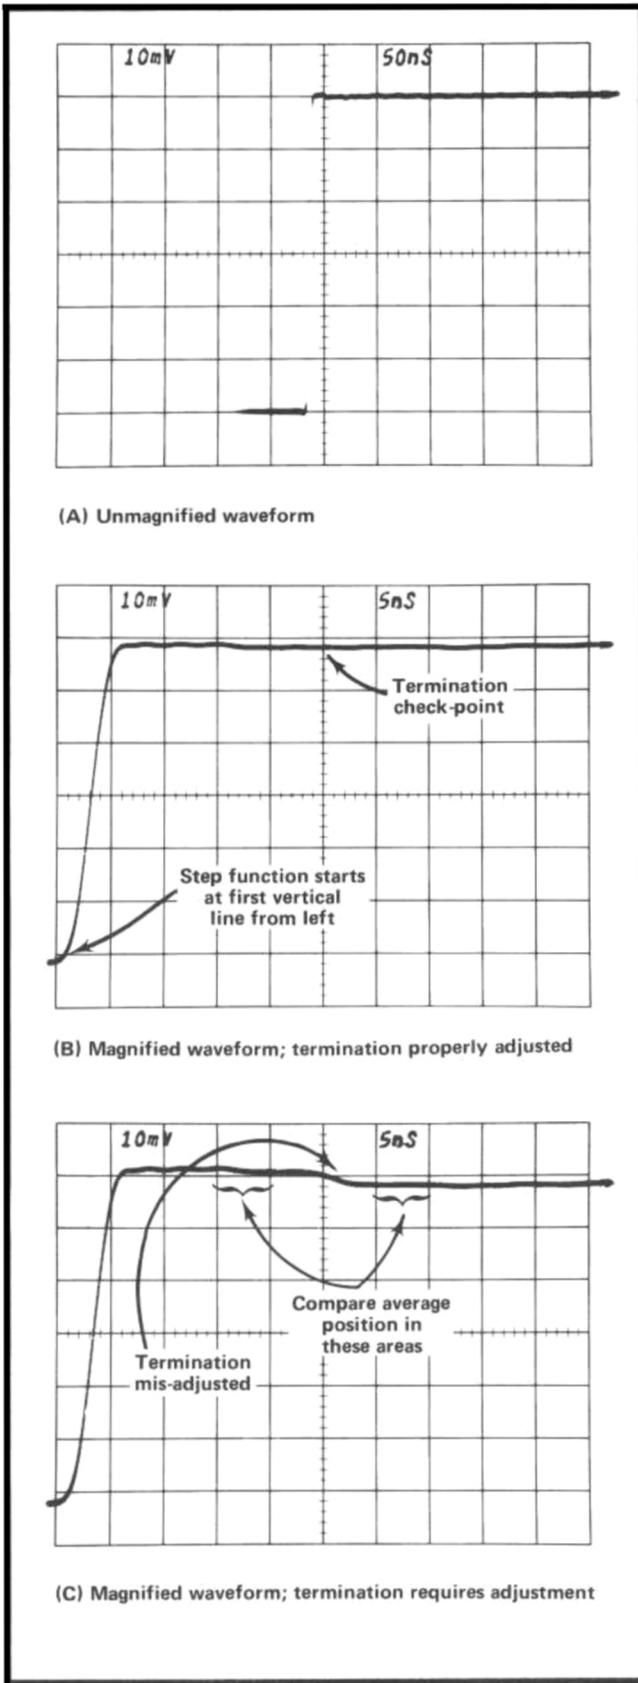
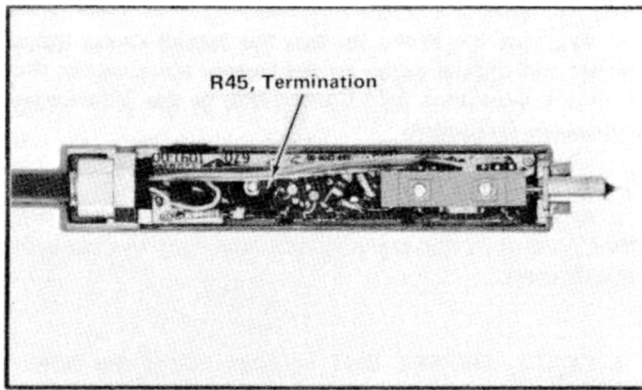

Fig. 5-6. Termination adjustment waveforms, step 5.
Fig. 5-7. Probe termination adjustment location, step 5.
d. Switch the Time Base Time/Div to .05  $\mu$ s. Increase the Oscilloscope Intensity and adjust the Triggering and Position controls as necessary to obtain a display as in Fig. 5-6(A).
e. Switch the Time Base Magnifier to X10 and adjust the Position control to position the display as indicated in Fig. 5-6(B). The beginning of the step function should start at the first vertical graticule line at the left for convenient time measurement.
f. CHECK—93  $\Omega$  Termination. No obvious step should appear approximately 25 ns after start of the step function. The average trace position 15 to 20 ns after the start of the step function should be within  $\pm 0.05$  division of the average trace vertical position 35 to 40 ns after the start of the step function as shown in Fig. 5-6(B). Fig. 5-6(C) shows a waveform resulting from a misadjusted termination.
(1) Disconnect the Probe from the 50  $\Omega$  Termination/Adapter.
(2) De-energize the 7A11 by pulling it free from the Oscilloscope connector.
(3) Remove the Probe upper cover and shield as explained in the Maintenance Section.
(4) Insert the 7A11 fully into the Oscilloscope.
(5) Connect the Probe to the 50  $\Omega$  Termination/Adapter, 5X Attenuator, and Square Wave Generator.
(6) Permit 5 minutes warmup time before continuing.
(7) Adjust TERMINATION R45 (Fig. 5-7) for minimum discontinuity occurring approximately 25 ns after start of the step function. Switch the 10X Magnifier Off and On as necessary to best observe the adjustment results.
(8) Disconnect the 7A11 from the Oscilloscope connector.
(9) Disconnect the Probe from the 50  $\Omega$  Termination/Adapter and re-install the shield and cover.
(10) Insert the 7A11 fully into the Oscilloscope. Select 20 MHz Bandwidth at the 7A11 and switch the Time Base Multiplier to X1.